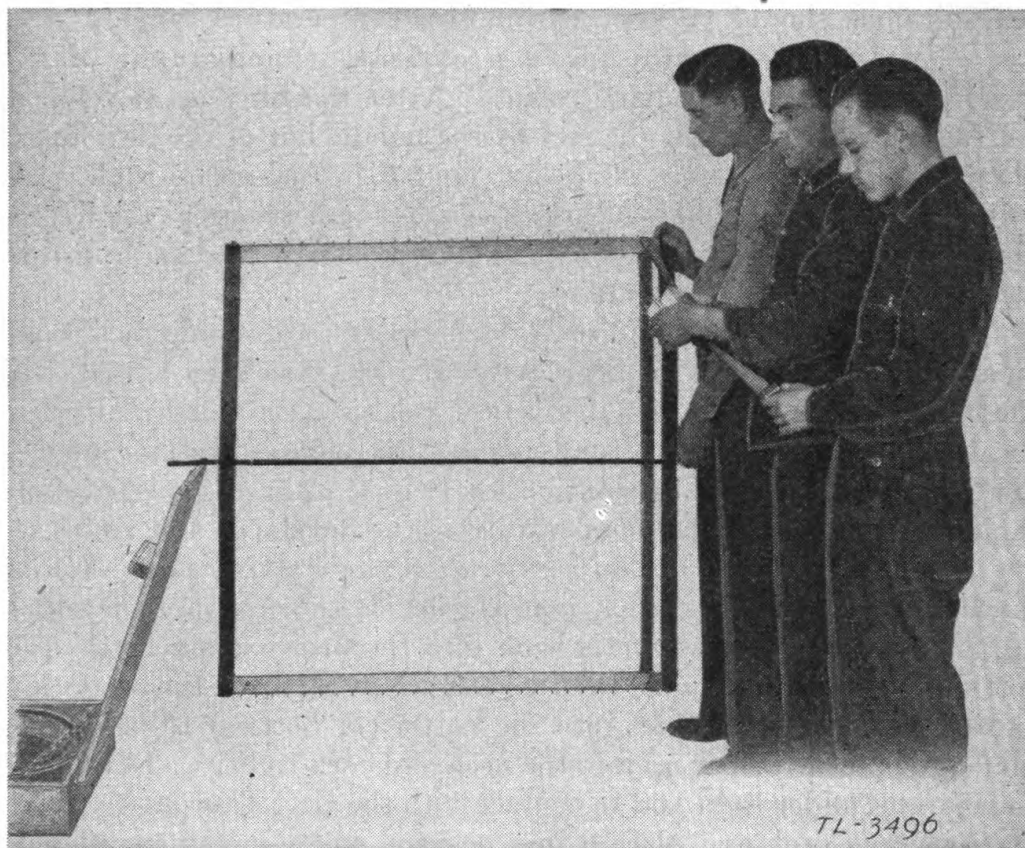

FIGURE 23.—Soldiers wiping and winding film onto drying rack.
(2) Remove the smallest tank from the chest and pour into it previously prepared developer solution (Eastman Kodak Company D-11) to a depth of approximately 3 inches. Always use this small tank for developer. The developer is mixed in 5-gallon lots according to directions on the package, one lot being sufficient to develop 1,000 feet of film before being thrown away. *Do not use developer if it is dark brown or has been mixed for over 1 week!*
(3) Remove the middle-sized tank from the chest and pour clear water in it to a depth of about 3 inches. (Always use this tank for water.)
(4) Remove the large tank from the chest and pour previously prepared fixing solution (hypo) into it to a depth of about 3 inches. Always use this large tank for fixing solution. Hypo is mixed in 4-gallon lots (eight 1-pound packages of powder) according to directions on the package and may be used as long as two 5-gallon lots of developer.
(5) Remove the drying rack from its case and assemble it for use. The assembled rack is shown in figure 23. You may do this while the film is in the fixing solution to save time.
compact roll so that it will not scratch when handled. Take the roll of film from the water and fasten the end to the drying rack so that the film will be wound on the rack emulsion side out. Hold the roll of film between the thumb and one finger as illustrated in figure 23. Using *three* men as illustrated in figure 23, wind the film loosely on the drying rack, first wiping carefully between two viscose sponges which have been wet in clear water and then squeezed as nearly dry as possible with the hands. Use care in this wiping to get as much as possible of the loose water off the film without scratching or sliding the emulsion on the film. One man holds the rack and turns it to wind the film on it. The other end of the rack may be rested on the open cover of the case holding the developing equipment. A second man wipes the film carefully with the viscose sponges. The third holds the roll of wet film. If the film shrinks tight on the rack as it dries, loosen it to prevent stretching or breaking.